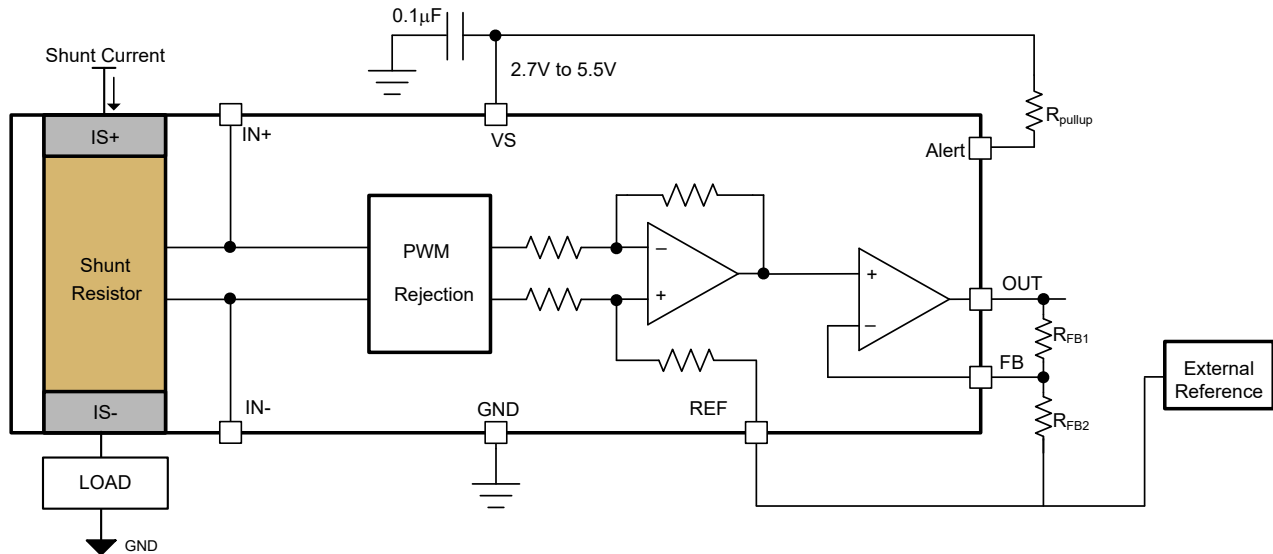

図 6-8. Adjustable Gain Setting With External Resistor Divider
The INA790x features adjustable gain with two external resistor network. The default gain is 20mV/A, and with added external adjustable gain resistor network, total gain (G) can range up to 400mV/A. 図 6-8 shows two external resistors R_{FB1} and R_{FB2} configured for added external gain. 式 2 can be used for calculating external adjustable gain and 式 3 shows the total gain of the system with external adjustable gain. The REF pin and one end of resistor R_{FB2} is connected to external reference based on needed voltage at OUT pin as described in Adjusting the Output With the Reference Pin.